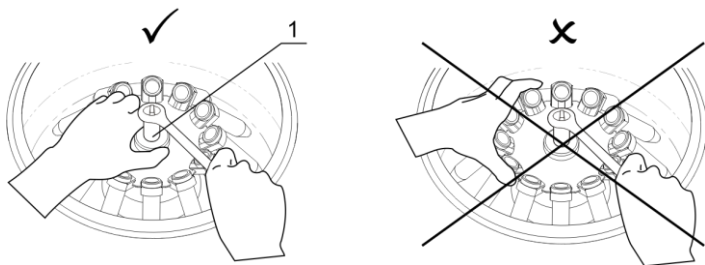

Figure 1. Rotor fixation
- Hold the rotor with one hand and, using the supplied wrench for rotor replacement (13 mm), turn the fixation screw (fig. 1/1) counter clockwise to release the rotor.
Caution! Do not hold the rotor by rings or adapters mounting when mounting and fixing it. Hold the rotor as shown on figure 1 (✓).
Caution! Check the rotor fixation every 10 days. Tighten the fixation screw, if necessary, see figure 1.